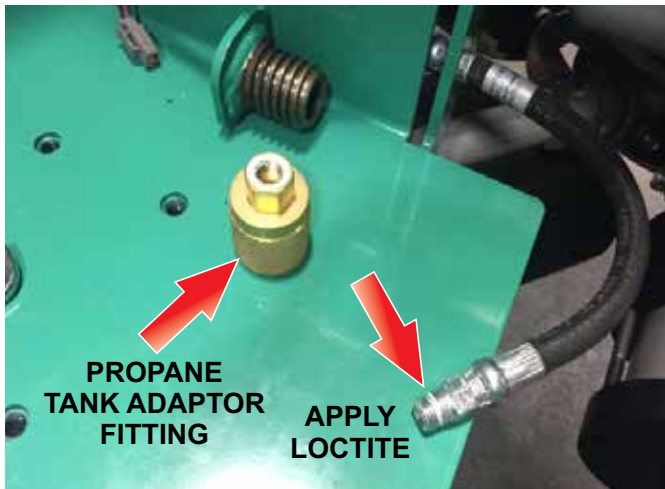

Figure 30. Applying Loctite® 567™
31. Apply Loctite® 567™ to the male threads (Figure 30) on the hose that connects to the propane tank adaptor fitting.